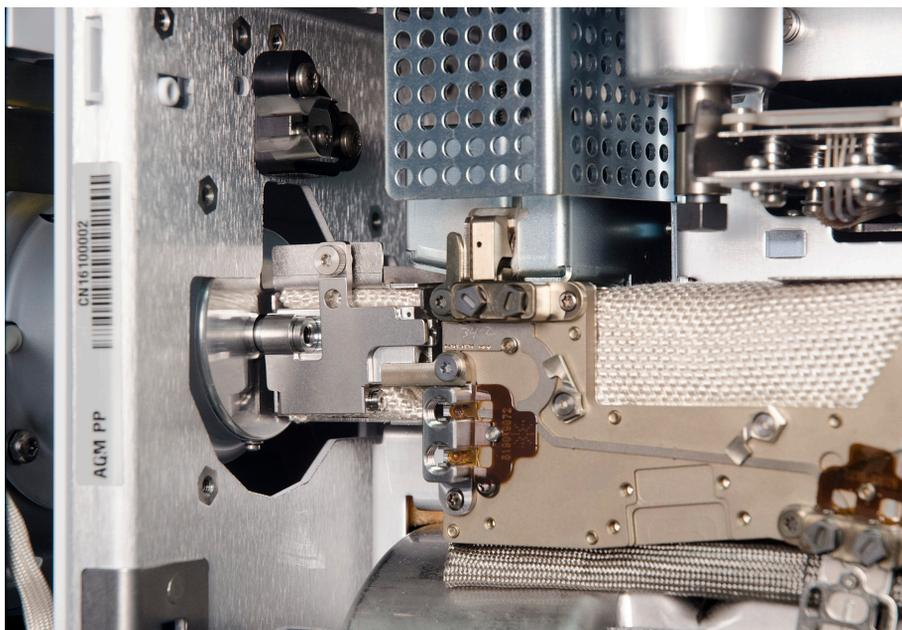

Figure 7. GC/MS interface and bus
- 5 Slide the MS against the GC with the GC/MS interface entering the GC side opening (see **Figure 7** on page 87), and the metal brackets entering their slots in the base of the GC.